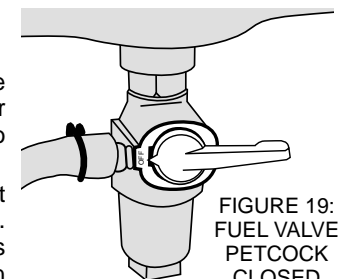

FIGURE 19:
3. Close the fuel valve by turning petcock counterclockwise to the horizontal position shown in figure 19.